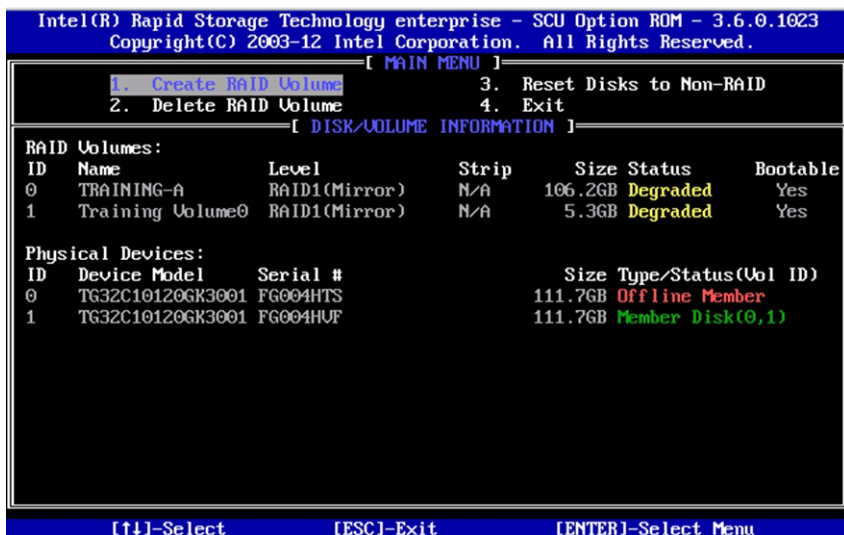

Figure 1-64 Intel Rapid Storage Technology enterprise (RSTe) User Interface
5. At POST, hit **Ctrl + i** to enter the **Intel® Rapid Storage Technology enterprise** user interface (Figure 1-64).